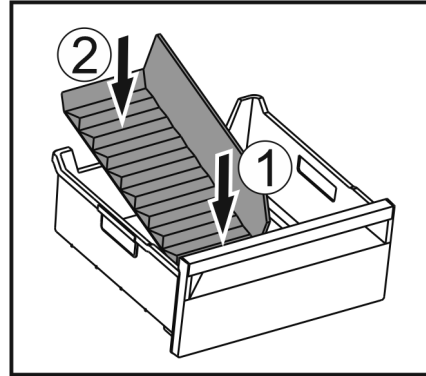

Fig. 165
- ▶ Insert the front part of the ice compartment divider. Fig. 165 (1)
- ▶ Lower the rear part of the ice compartment divider to the drawer bottom. Fig. 165 (2)